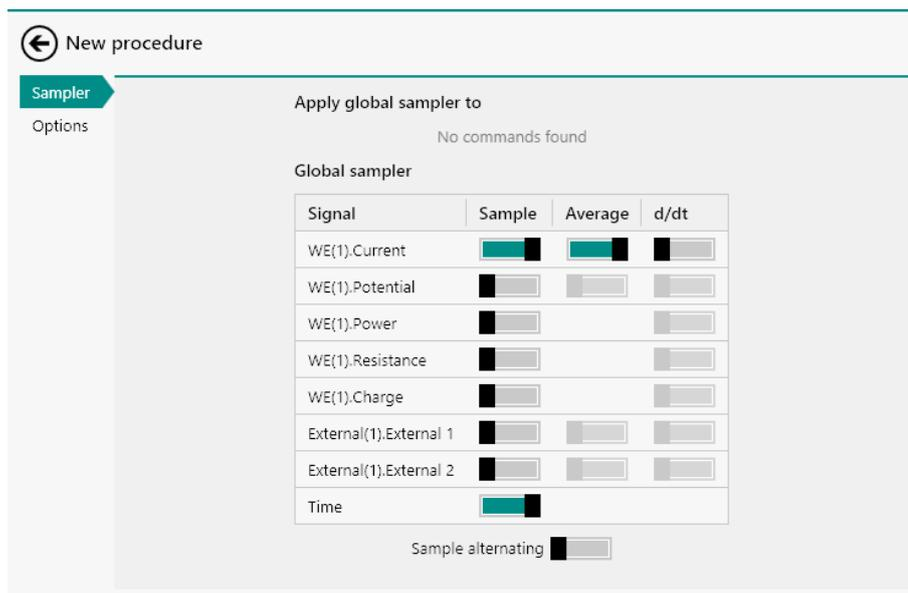

Figure 790 The global sampler settings
A new screen will be displayed, as shown in Figure 790, showing two different sections:
- **Sampler:** the settings in this section define the global sampler settings (see figure 790, page 648).